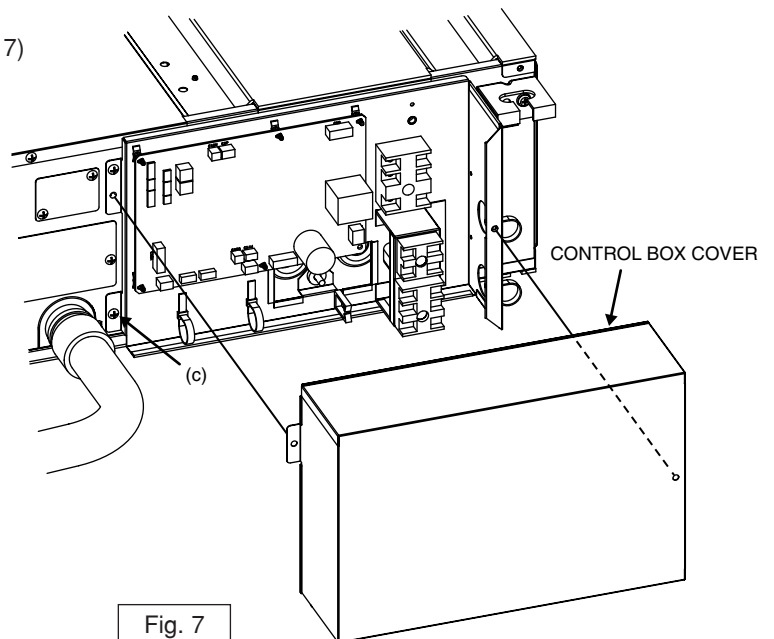

Fig. 7
- (1) Remove the CONTROL BOX COVER from the unit by unscrewing the two screws on the cover. (Fig. 7)
- (2) Unscrew the (c)CONTROL BOX fixing screw. (Fig. 7)
- (6) Place the screw(c) that was removed in Step 3-3.(2) above back on. (Fig. 7)